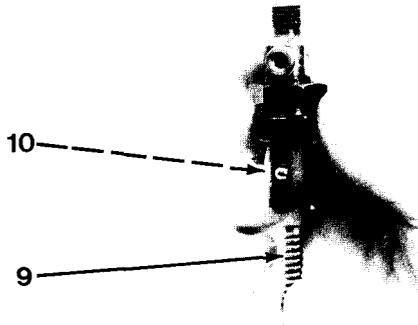

Figure 7-11
1. Install same thickness of shim(s) (10) that were removed in disassembly. Use pressure spring (9, Figure 7-11) to make sure shim(s) (10) are installed flat.